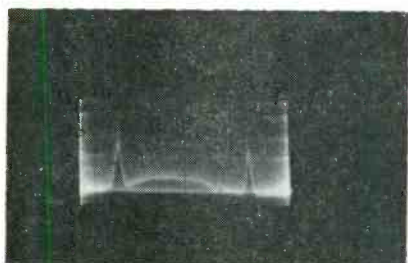

Fig. 2—Blurred image caused by open scope testleads.
**A.** This situation (shown in Fig. 2), is caused by pick-up of pulse voltages from the stray field of the picture tube by the open test leads. A